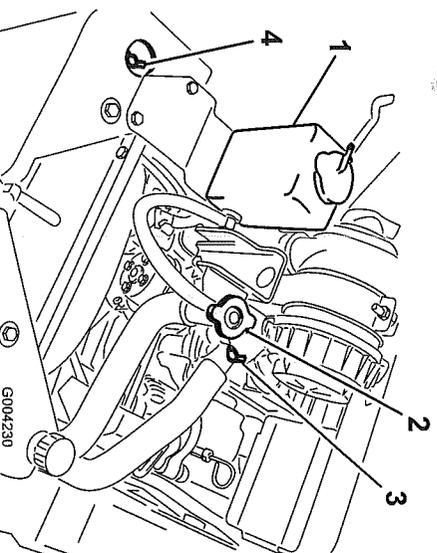

Figure 21
- A. Remove the coolant fill cap (Figure 21).
- A. Open the front and top coolant bleed valves (Figure 21).
- B. Pour coolant into the coolant filler neck until the coolant begins to come out of the front coolant bleed valve (Figure 21).
- C. Close the front coolant bleed valve (Figure 21).
- D. Pour coolant into the coolant filler neck until the coolant begins to come out of the top coolant bleed valve (Figure 21).
- F. Close the top coolant bleed valve (Figure 21).
- G. Pour coolant into the coolant filler neck until the coolant level comes into the filler neck (Figure 21).
- H. Install the coolant fill cap (Figure 21).
- I. Add coolant into the expansion tank until it reaches the Full line on the side of the tank (Figure 21).